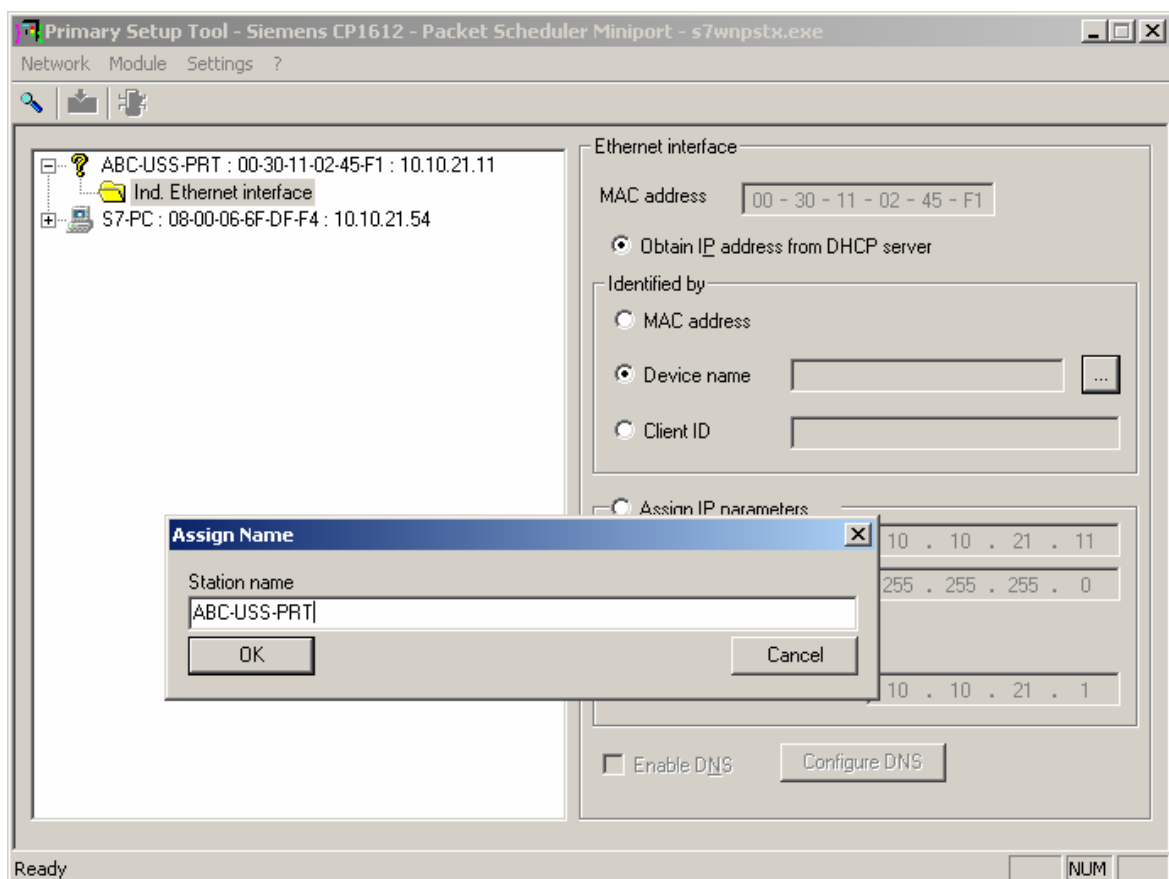

Figure 3
4. Enter correct station name, see figure 3.